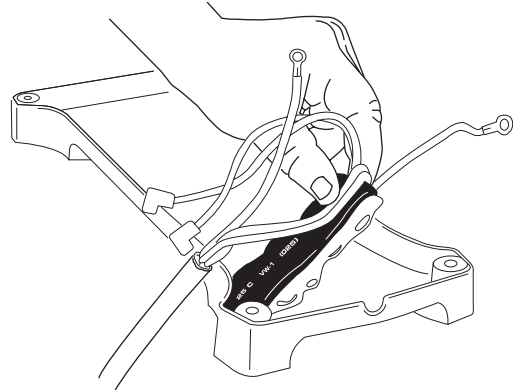

Figure 4
- Remove two (2) Phillips screws from power cord wire clamp.
- Remove two (2) power cord MOV blue-capped AC leads [one (1) black and one (1) white] from printed circuit board (PCB) located on base. (See Figure 4)